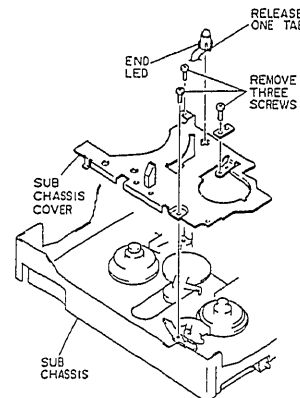

Fig. 2-36
- 1) Remove three (3) screws holding the sub chassis cover. (See Fig. 2-36)
- 2) Release one (1) tab and remove the end LED from the sub chassis cover.